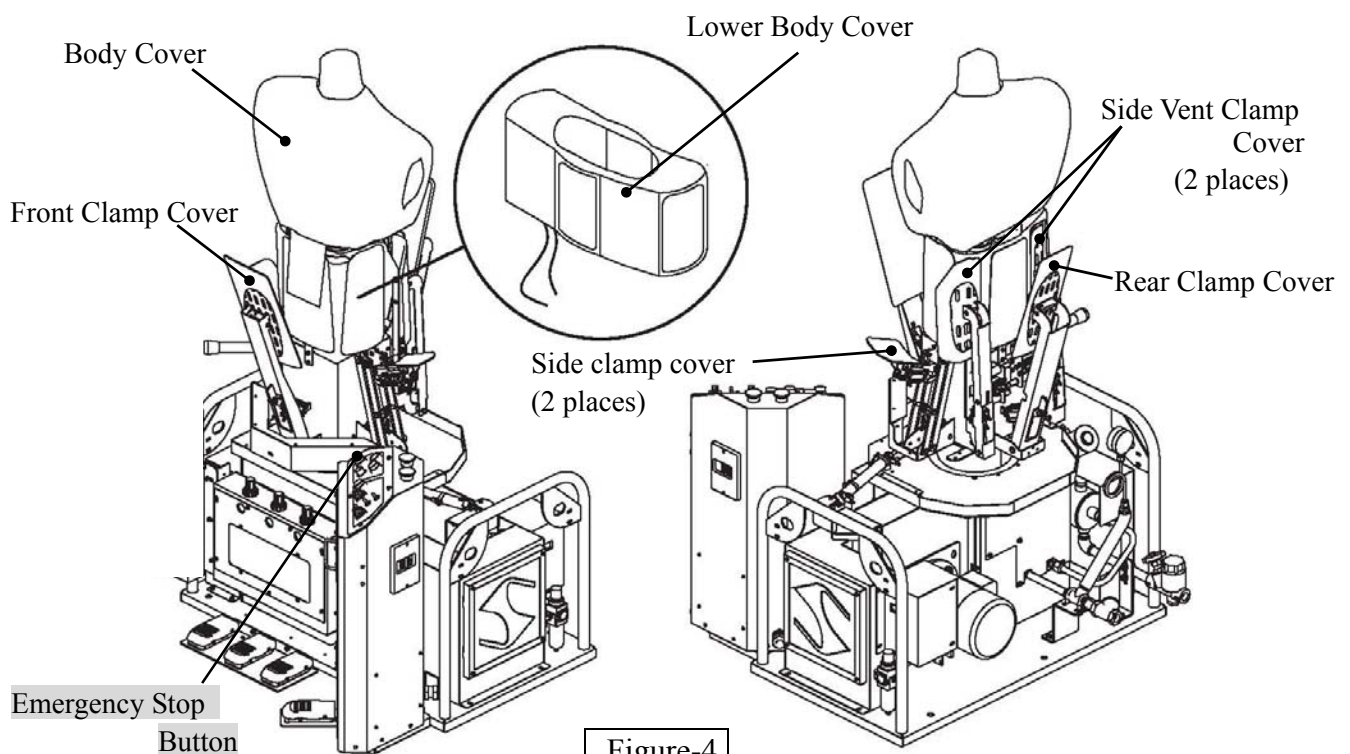

Figure-4
5. Cover check: Figure-4
6. Emergency stop check: Figure-4